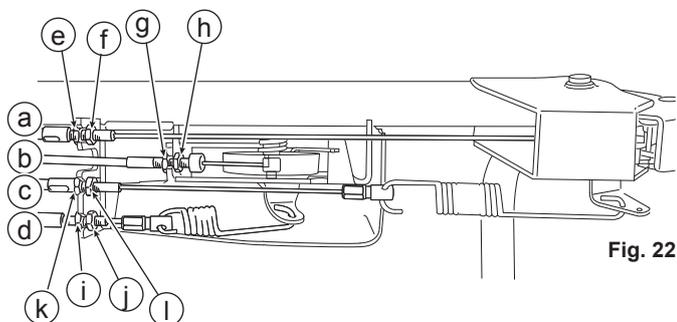

Fig. 22
**8.5.1 Throttle Lever (See Figs. 22 and 23)**
**8.5.2 Blade Lever (See Figs. 22 and 24)**
3. Confirm that the blade stops completely when Blade lever (C) is released.
**8.5.3 Drive Clutch Lever (See Figs. 22 and 25)**
3. Confirm that the machine can be pull backward when Drive clutch lever (B) is released.
**8.5.4 Gearshift Lever (See Figs. 22 and 26)**